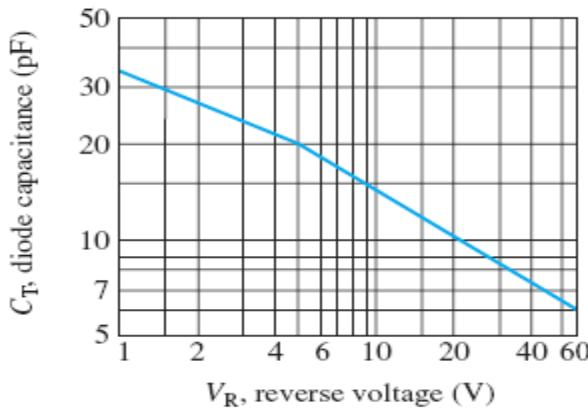

Figure 3–62
- 16.** Figure 3–62 is a curve of reverse voltage versus capacitance for a certain varactor. Determine the change in capacitance if V_R varies from 5 V to 20 V.
- 17.** Refer to Figure 3–62 and determine the approximate value of V_R that produces 25 pF.